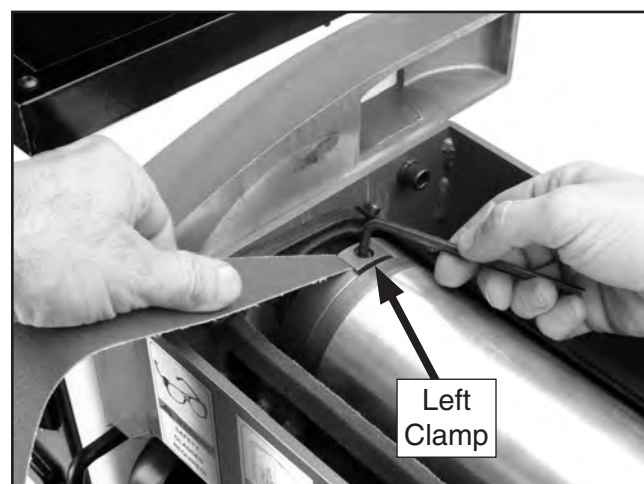

Figure 19. Securing sandpaper in left clamp.
7. Insert corner of new sandpaper into left clamp and tighten cap screw, as shown in **Figure 19**.